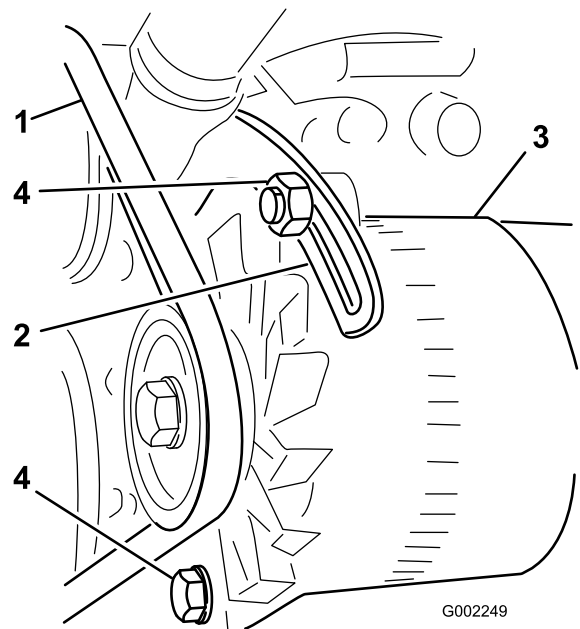

Figure 85
3. Loosen the bolts that secure the brace to the engine and the bolt that secures the alternator to the brace (Figure 85).